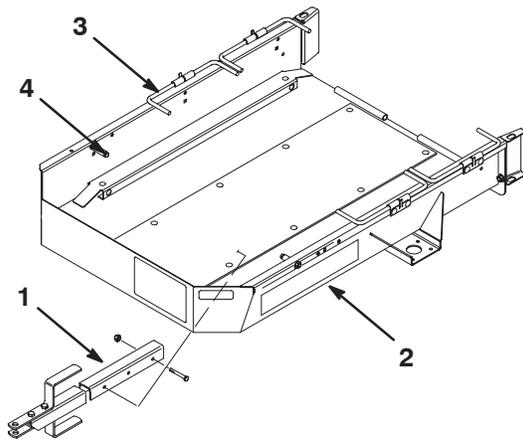

Figure 1
1. Mount tongue assembly to mounting bracket on underside of trailer bed with (2) 3/8-16 x 2-3/4" lg. capscrews, spacers, and lock nuts. For most applications, use front set of mounting holes in tongue and bracket (Fig. 1).
3. Remove baskets from greens mower, disengage reel drive and move throttle to slowest position. SLOWLY drive greens mower onto trailer until trailer stops are contacted (Fig. 1).
5. Pivot wheel rods downward over greens mower transport wheels (Fig. 1).